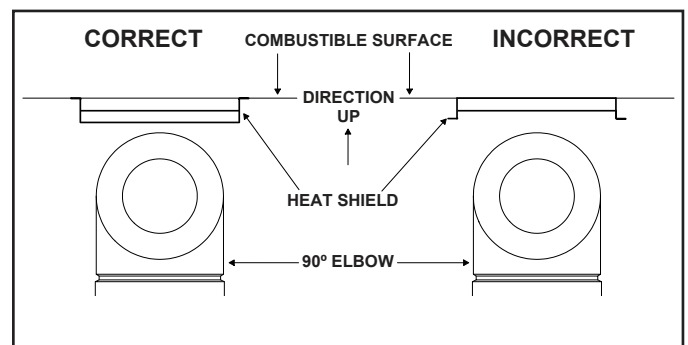

Figure 4.10
4. Fasten the shield in place using the four pilot holes provided in the part. The shield should be oriented such that the 12 inch dimension (shorter dimension) is running in the same direction the elbow is pointing. The shield should be centered directly above the elbow, and positioned so that it creates a 1 inch airspace between the shield and the combustible surface. See Figure 4.10.